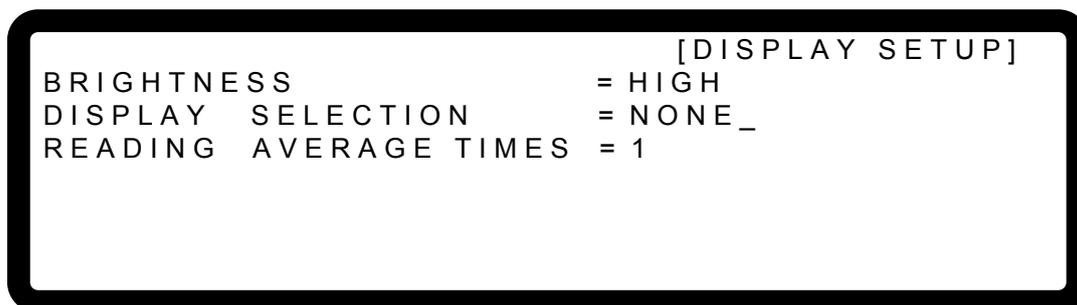

Figure 3-55
1. In Config setting page, press "" to display the screen and "" to enter into DISPLAY SELECTION as Figure 3-55 shows.
2. Use "", "" keys to move the cursor to the column to be set as Figure 3-55 shows.
3. Use the numeric keys (~) or "Rotary" () knob to select the desired setting. There are 4 selections on the MAIN PAGE : (1)**NONE**, (2)**V/I LIMIT**, (3)**V/I/P PROTECT** and (4)**V/I SLEWRATE**. The system default is **NONE**.